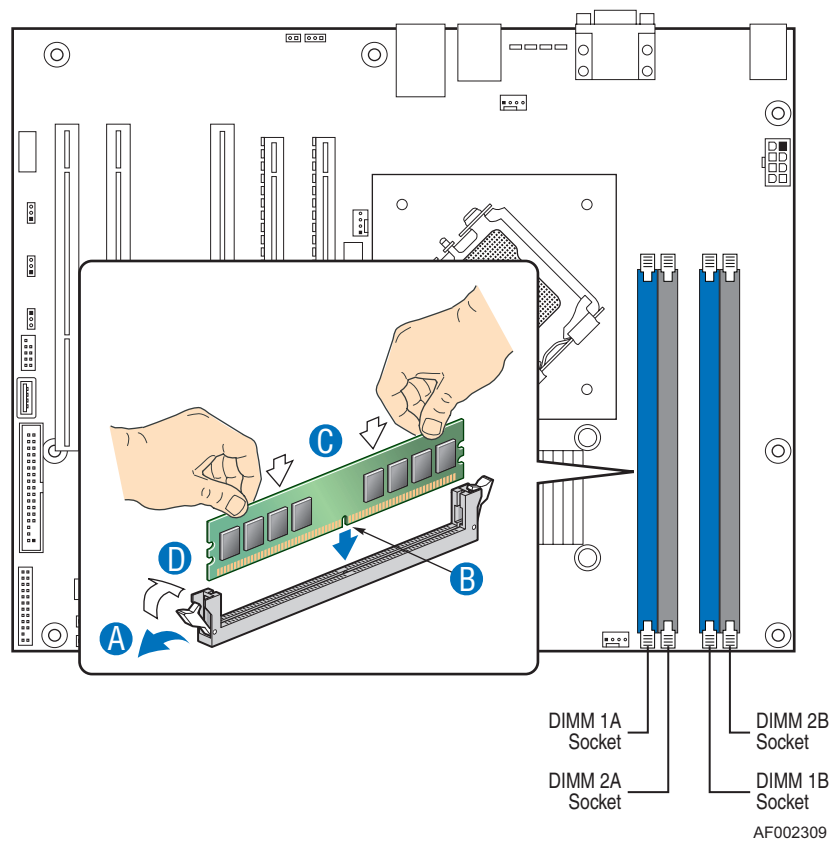

Figure 143: Upgrading the Memory
5. Press the plastic clips at the outer edge of the socket away from the memory module. This ejects the memory module from the socket (see “A” on Figure 143). Do not touch the module's metal "fingers." Store the module in an anti-static bag (available at electronic supply stores) or a cardboard box.
6. Align the new module with an empty memory socket. Make sure the notch on the module aligns with the key in the socket. The module is designed to install into the socket in only one way (see “B” on Figure 143).
7. Press the module firmly into the socket (see “C” on Figure 143). If you have difficulty installing a module, do not force it! Carefully remove the module, then check the alignment of the module's notch with the one in the socket. Then re-install the module.
8. Make sure the locking clips at either end of the module click closed (see “D” on Figure 143). If the brackets do not secure themselves to the module, carefully remove the module, then reinstall it.